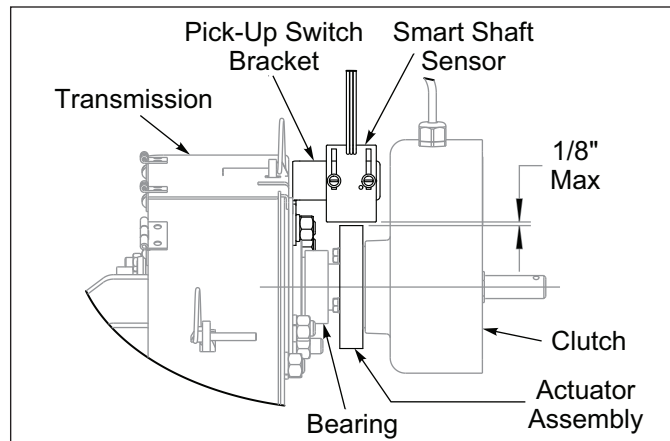
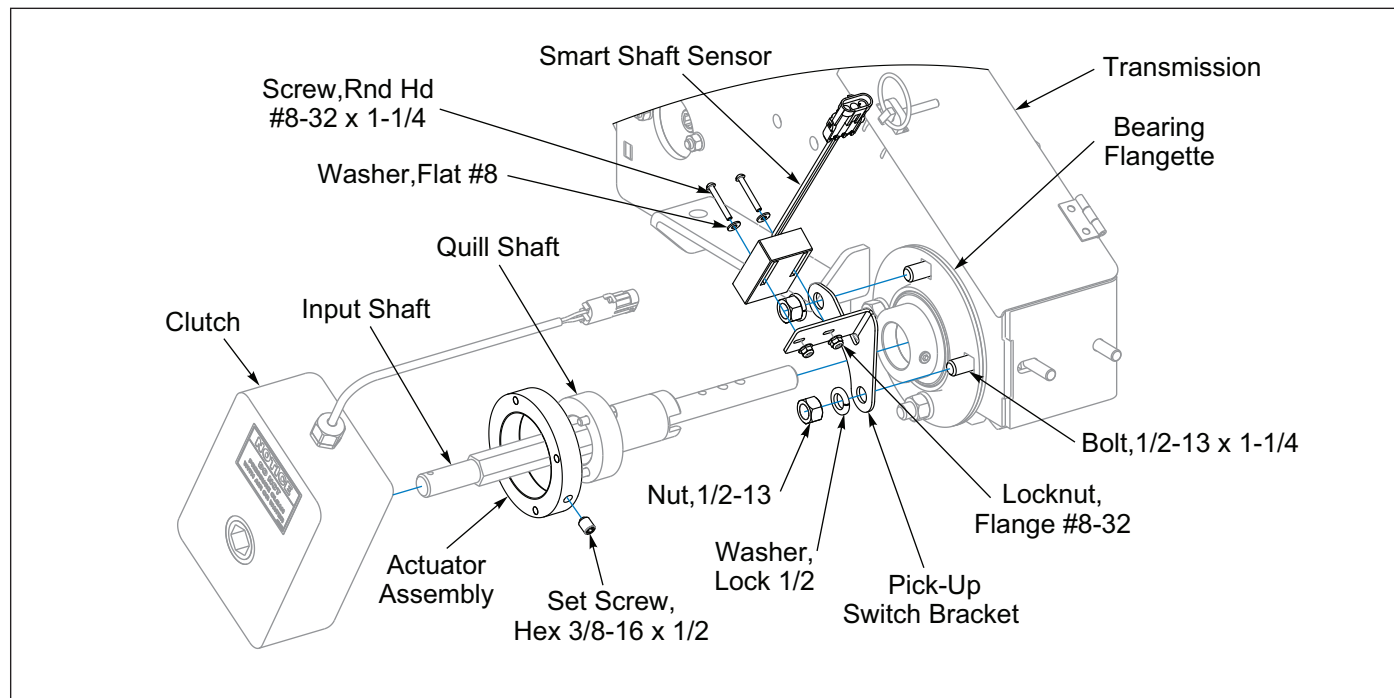

Figure 2-21: Ground Speed Sensor Detail
Figure 2-26: Brillion Elite Mini Monitor - Ground Speed Sensor
2. Remove Seeder Clutch. Install Actuator Assembly onto the Quill Shaft outer diameter, securing with Actuator Assembly Set Screw. Reinstall Clutch. See Figure 2-26. Install Pick-Up Switch Bracket to the Transmission Input Shaft Bearing Flangette Hardware. Assemble Smart Shaft Sensor onto the Pick-Up Switch Bracket with sensor provided hardware and #8-32 Flange Locknuts. Adjust the Smart Shaft Sensor so that it is 1/8" Max away from the Actuator Assembly. See Figure 2-21. Connect Ground Speed Smart Shaft Sensor to the Center Seeder Harness.